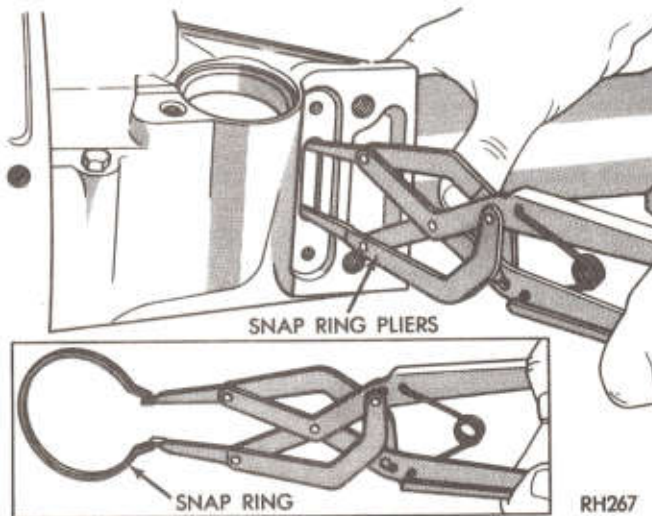

Fig. 7—Remove or Install Extension
(5) Remove screws, plate, and gasket from bottom of extension housing mounting pad. Spread large snap ring from output shaft bearing (Fig. 7).
(1) Place a new extension housing gasket on the transmission case. Position the output shaft bearing retaining snap ring in extension housing. Slide extension housing on output shaft guiding the parking lock control rod knob past the parking sprag. While spreading large snap ring in housing (Fig. 7), carefully tap housing into place, then release the snap ring. Make sure snap ring is fully seated in bearing outer race ring groove.
(2) Install and tighten extension housing bolts to 32 ft. lbs. (43 N·m).
(3) Install gasket, plate, and screws on bottom of the extension housing mounting pad.
(4) Install the center crossmember and rear mount assembly, tighten retaining bolts. Lower transmission to install extension housing to support bolts and tighten to 50 ft. lbs. (68 N·m).
(5) Install the speedometer pinion and adapter.
(6) Carefully guide front universal joint yoke into extension housing and on the output shaft splines. Align marks made at removal and connect propeller shaft to rear axle pinion shaft yoke.
(7) Add automatic transmission fluid to transmission to bring up to proper level.